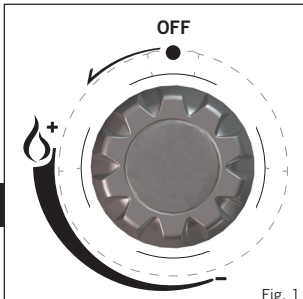

Fig. 1
- Before connecting the gas supply, firstly check that the appliance valve is in the off position by turning the control knob fully clockwise (See Fig. 1). Making sure that the gas cartridge is kept upright, screw the cartridge into the valve in a clockwise direction until it is fully engaged (Fig. 3a), hand-tighten only. If the cartridge is overtightened, it may damage the cartridge valve.